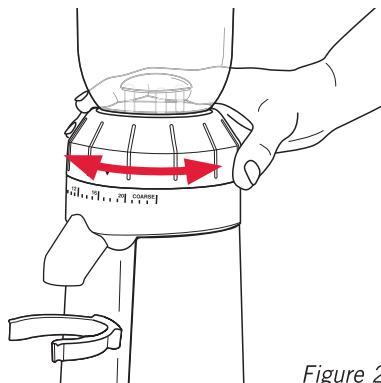

Figure 2
6. Select the grind by turning the grind adjustment collar to the desired setting, see Figure 2.